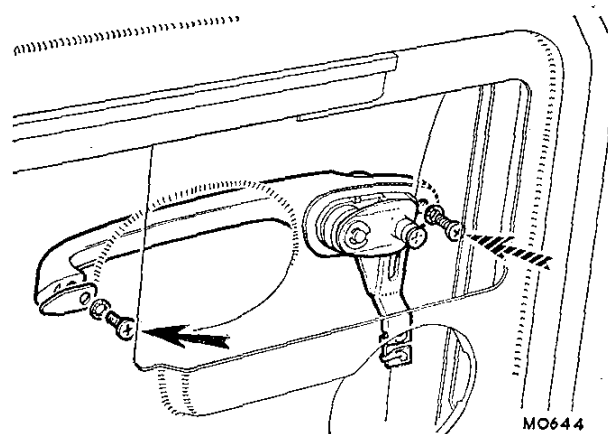

Fig. Rb.7
- (1) Remove the interior handles, door trim, and latch assembly—Section Rb.6, operations (1) to (5).
- (2) Wind up the window, remove the exterior handle securing screws (Fig. Rb.7), and withdraw the handle from the door.